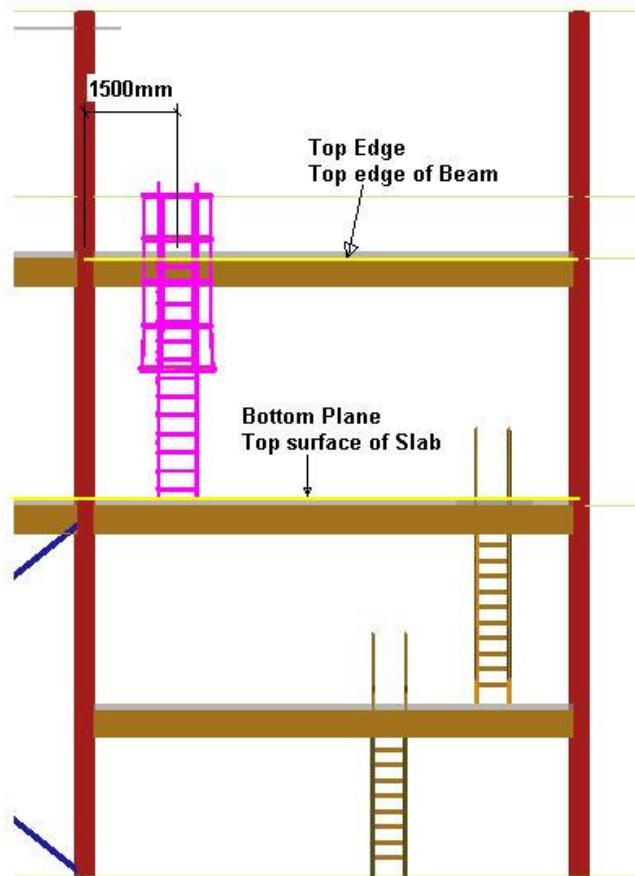

Figure 3 – North View of Building 1 East Bay
- 6 Select the reference edge for the ladder. See Figures 3 and 4.